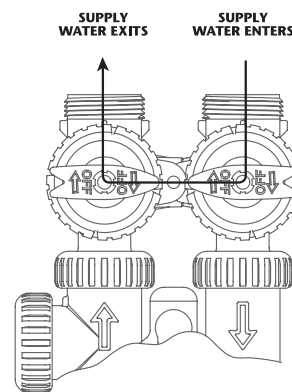

Figure 2
2. **Bypass Position:** The inlet and outlet handles point to the center of the bypass. The system is isolated from the water pressure in the plumbing system. Untreated water is supplied to the building (Fig. 2).